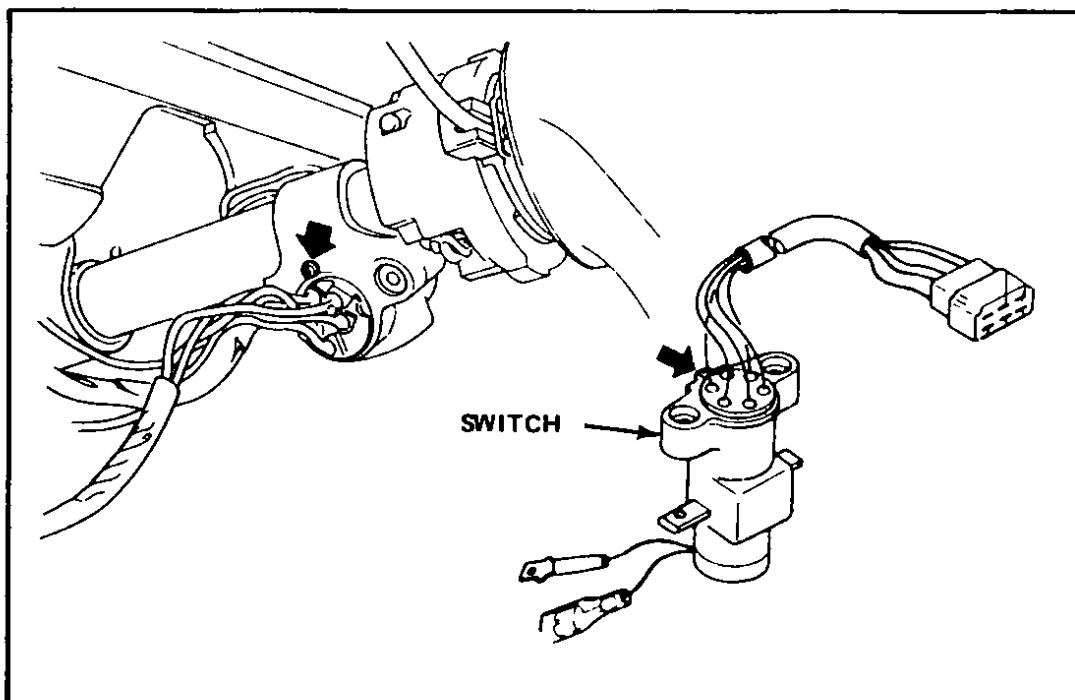

Fig 96 Ignition switch (typical)
- 3 Remove the switch retaining screw from behind the steering lock Switch assembly can now be removed, Fig 96 Install the new switch by reversing the above steps